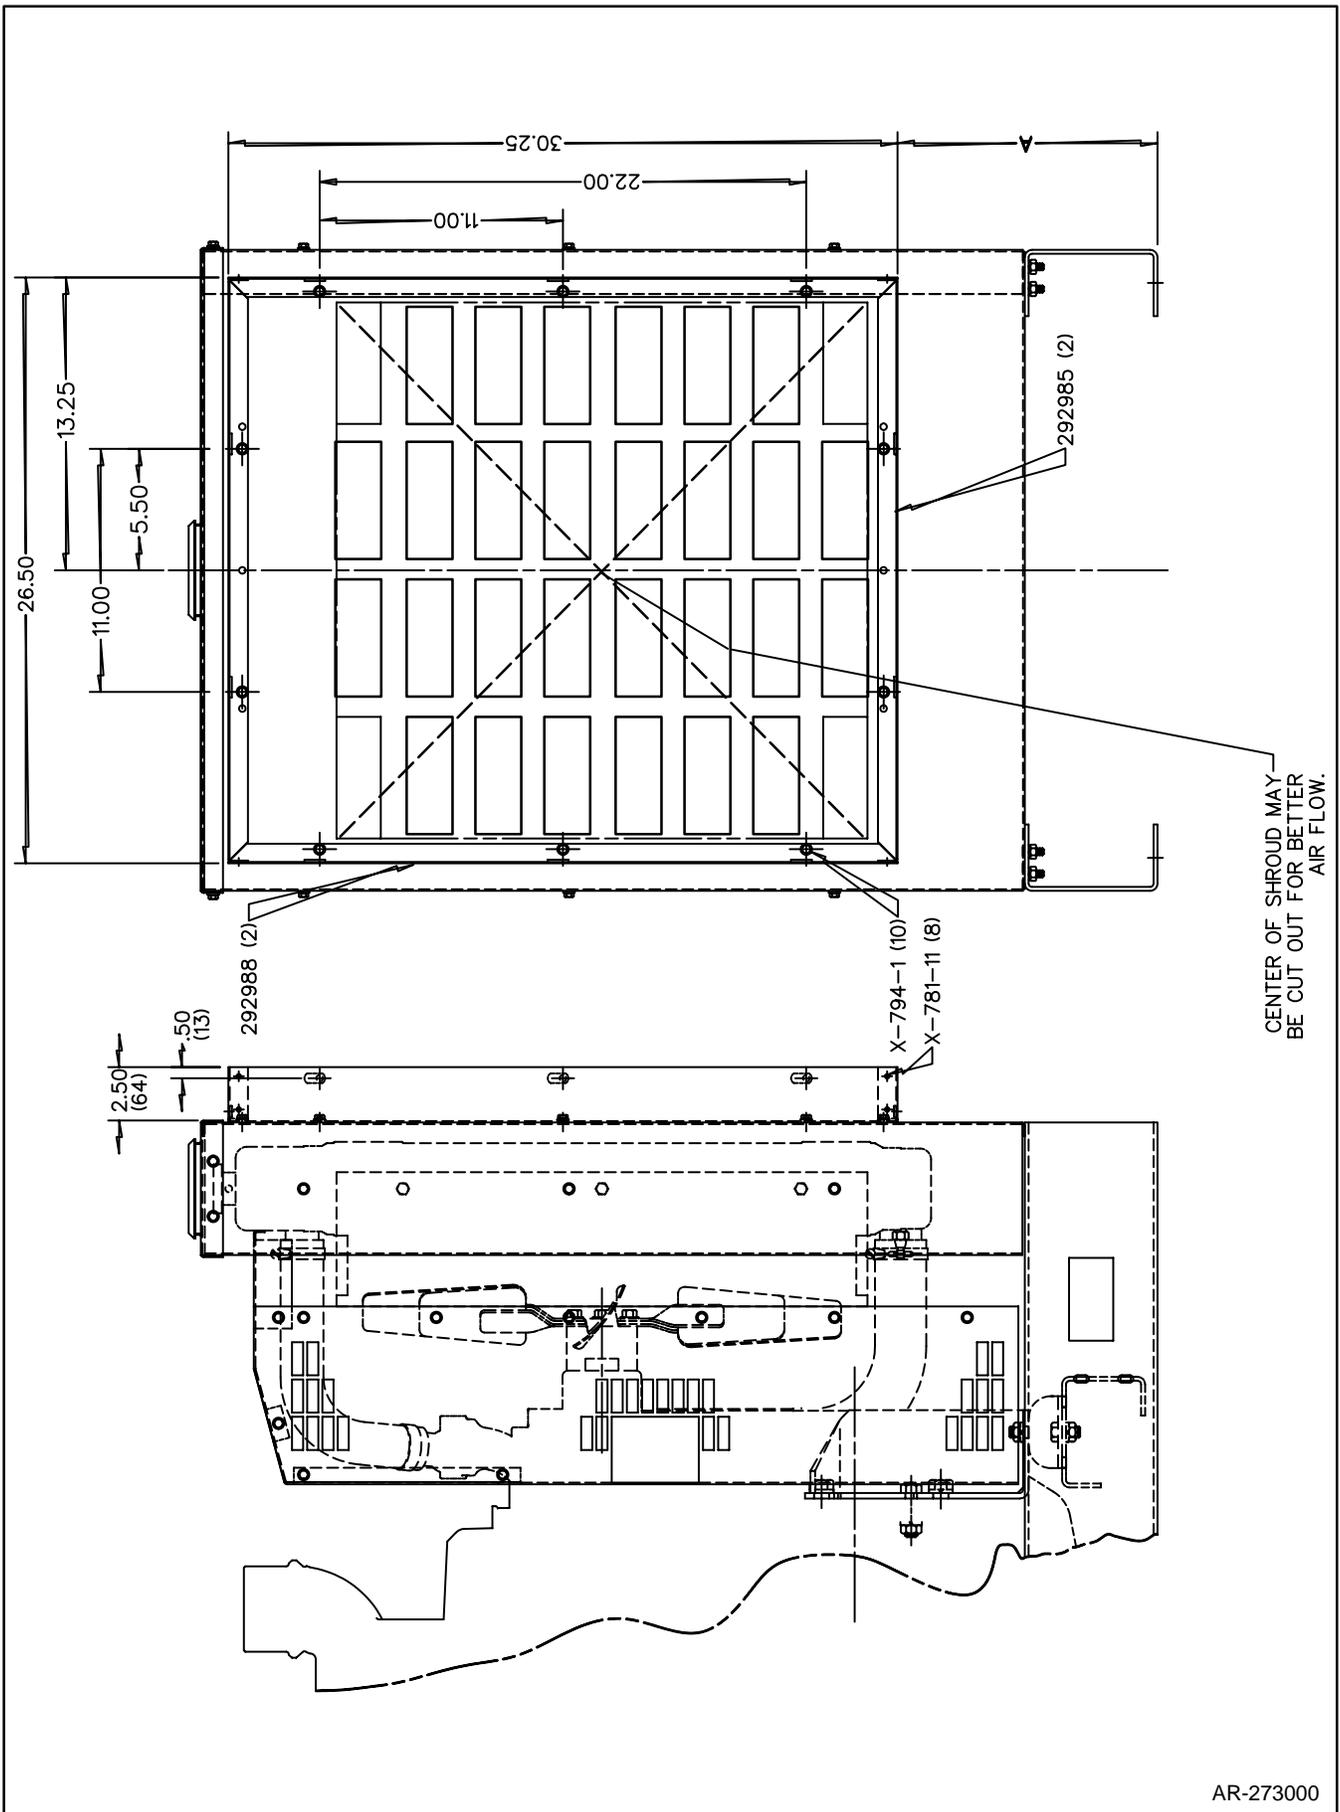

Figure 2. Radiator Duct Flange Mounting
7. Remove drill screws attaching radiator duct flange to radiator shroud, if installed. See Figure 2. Do not remove bolts attaching radiator duct flange to the sound shield enclosure.
12. Align radiator duct flange to radiator shroud. Attach radiator duct flange to radiator shroud using four drill screws (X-794-1). Predrill mounting holes if an impact wrench is not available. See Figure 2.
To improve air flow, remove the center of the radiator shroud by cutting the sheet metal between the rectangular openings. Be careful not to damage radiator fins. See Figure 2.